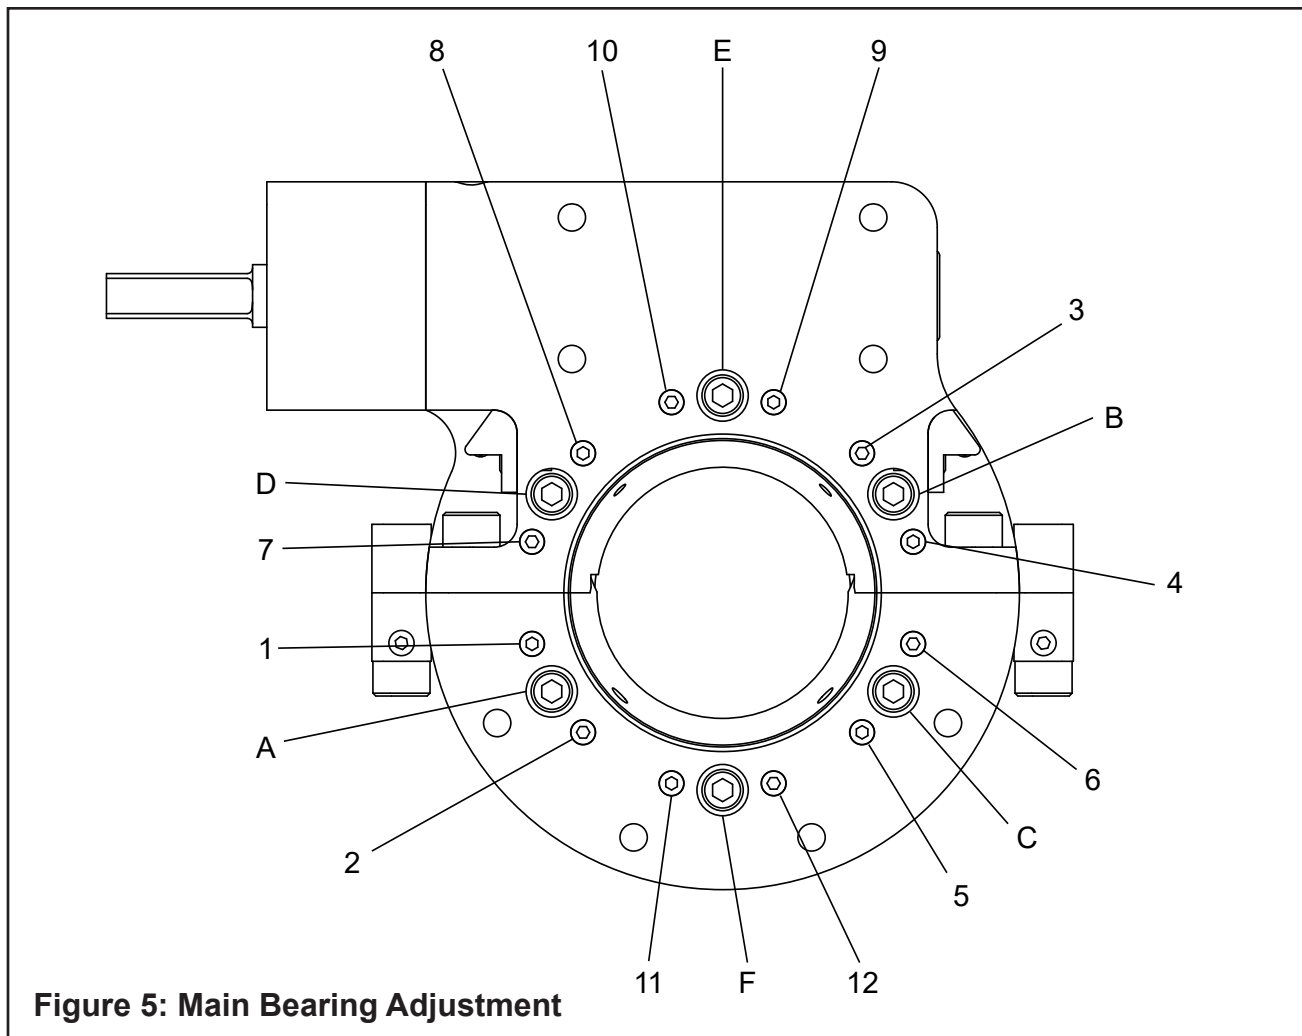

Figure 5: Main Bearing Adjustment
1. Loosen all main bearing locking screws one full turn with the 7/64" wrench. The locking screws are labeled A through F (refer to Fig. 5).